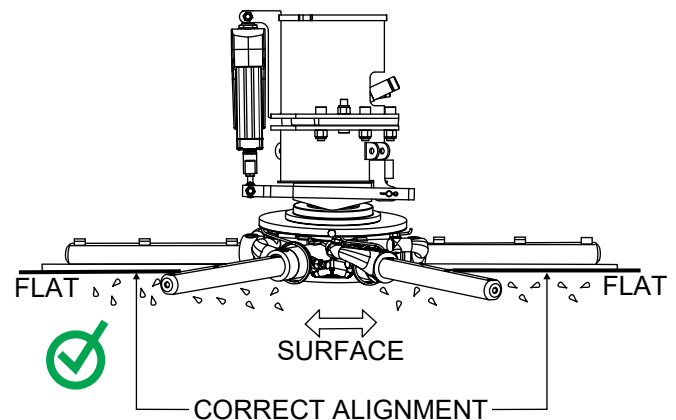

Figure 42. Correct Spider Alignment
2. Pitch the blades as flat as possible. The adjustment bolts should all barely make contact with the lower wear plate on the spider. Figure 42 illustrates the correct alignment for a spider assembly as shipped from the factory.